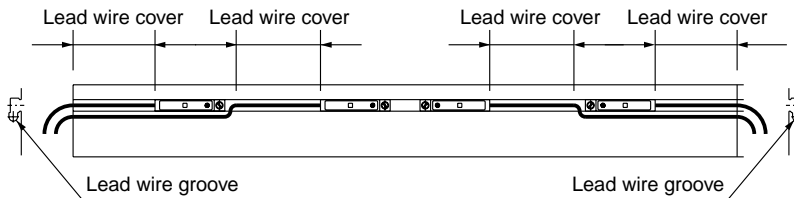

Figure 1. Auto switch mounting position
When multiple auto switches are used, be sure to use the lead wire groove and pull the lead wires out from the edge of the cylinder. (Bold lines in Figure 1 indicate lead wires.)
2. Cut the lead wire cover to the desired length using a cutter or tube cutter. (Refer to Figure 1.)